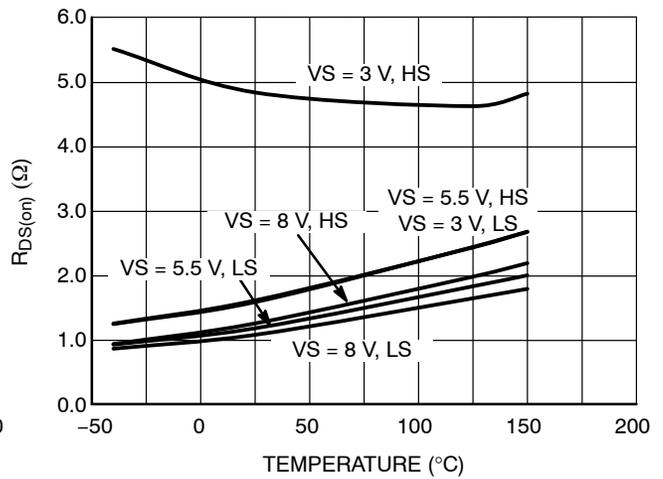

Figure 11. RDS(on) vs. Temperature
8. Refer to Figures 11 and 14 for  $R_{DS(on)}$  behavior.